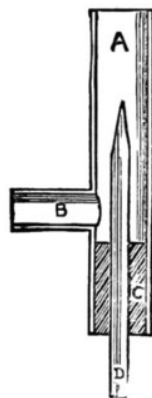

Fig. 1.
**Fig. 1** is a section of the blow-pipe complete.